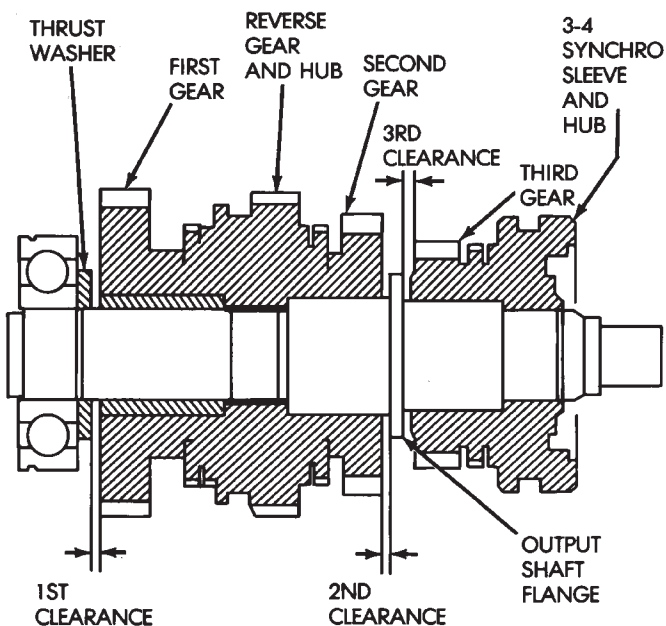

Fig. 112 Check Output Shaft Gear Thrust Clearance
(2) Measure and note thrust clearance of output shaft gears (Fig. 112). First gear clearance should be 0.10 - 0.40 mm (0.004 - 0.0197 in.). Second and third gear clearance should be 0.10 - 0.30 mm (0.003 - 0.0118 in.).